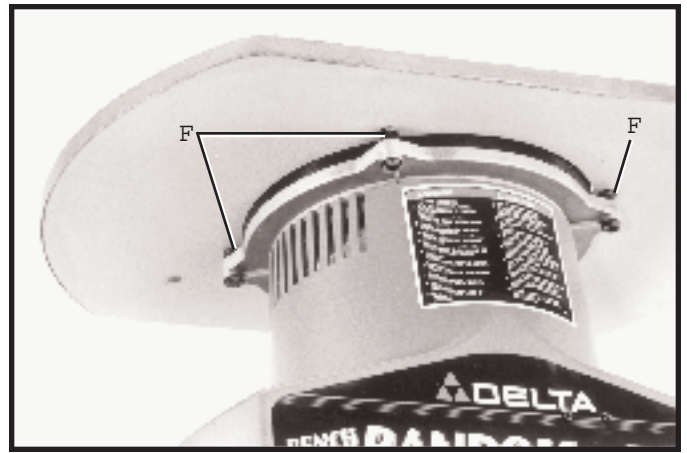

Fig. 8
2. If an adjustment is necessary, loosen four lock nuts located underneath the table, three of which are shown at (F) Fig. 8.
4. Tighten four lock nuts (F) Fig. 8, after table height adjustment.